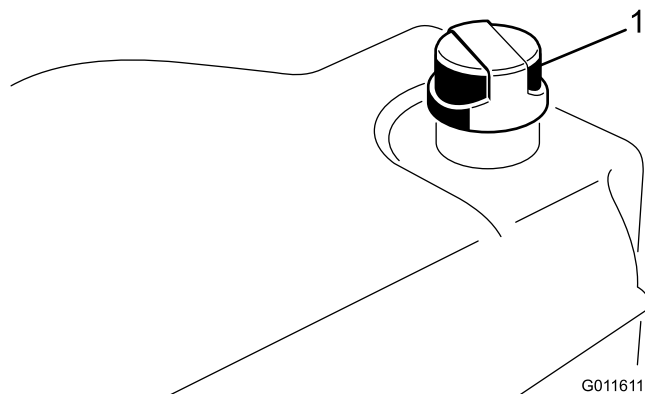

Figure 17
2. Clean area around filler neck and cap of hydraulic tank (Figure 17).